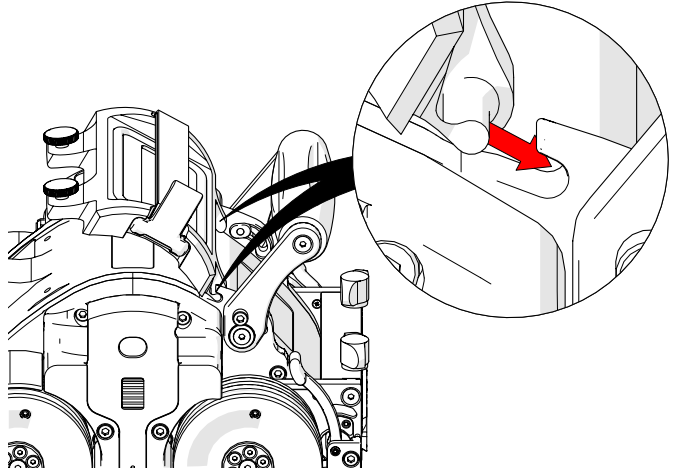

Fig. 83 - Fit backpack into notches
2. Place the front of the backpack into the notches found near the base of the handle (Fig. 83).